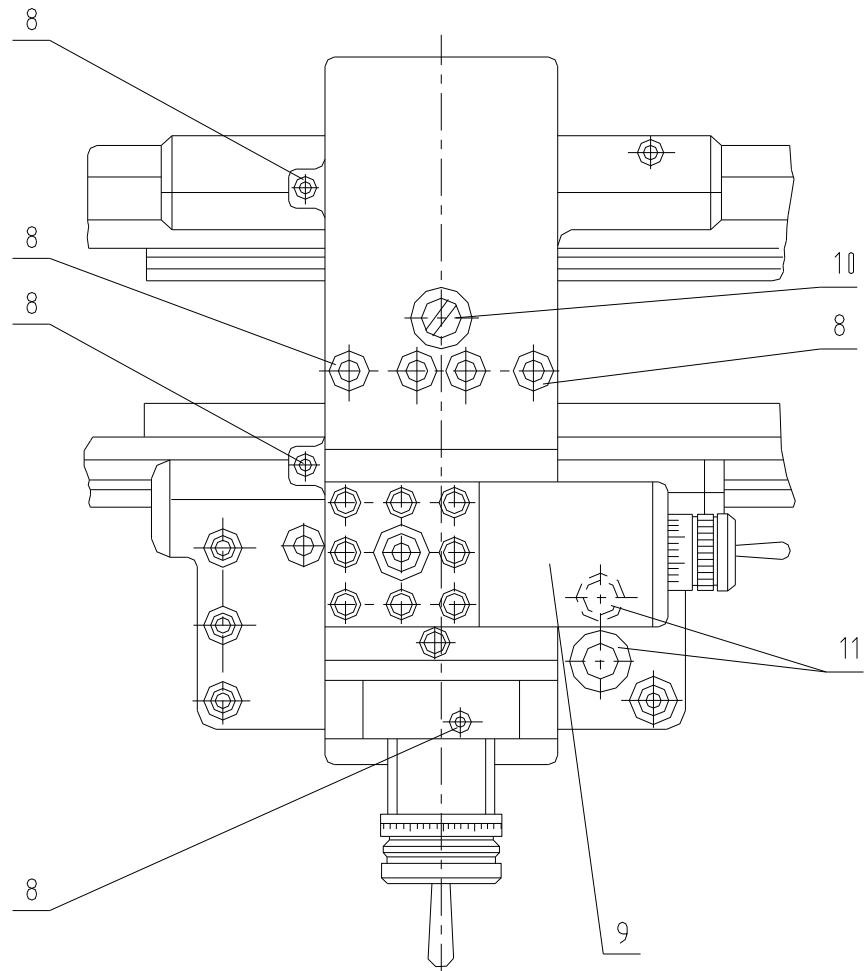

Fig.5-1
Bed slide ways and carriage are lubricated through oiler 8, Fig.5-1. Cross nut is lubricated from incorporated in the carriage. The oil container filling is through plug 10, Fig.5-1.
- 1st Version: from oil container that can be fill after removal of screw 11, Fig.5-1;
The dial on the carriage cross feed should be periodically lubricated through oiler 8, Fig.5-1 and in compliance with Table 5-1 “Recommended lubricants” and Diagram 5-1 “Machine lubrication”